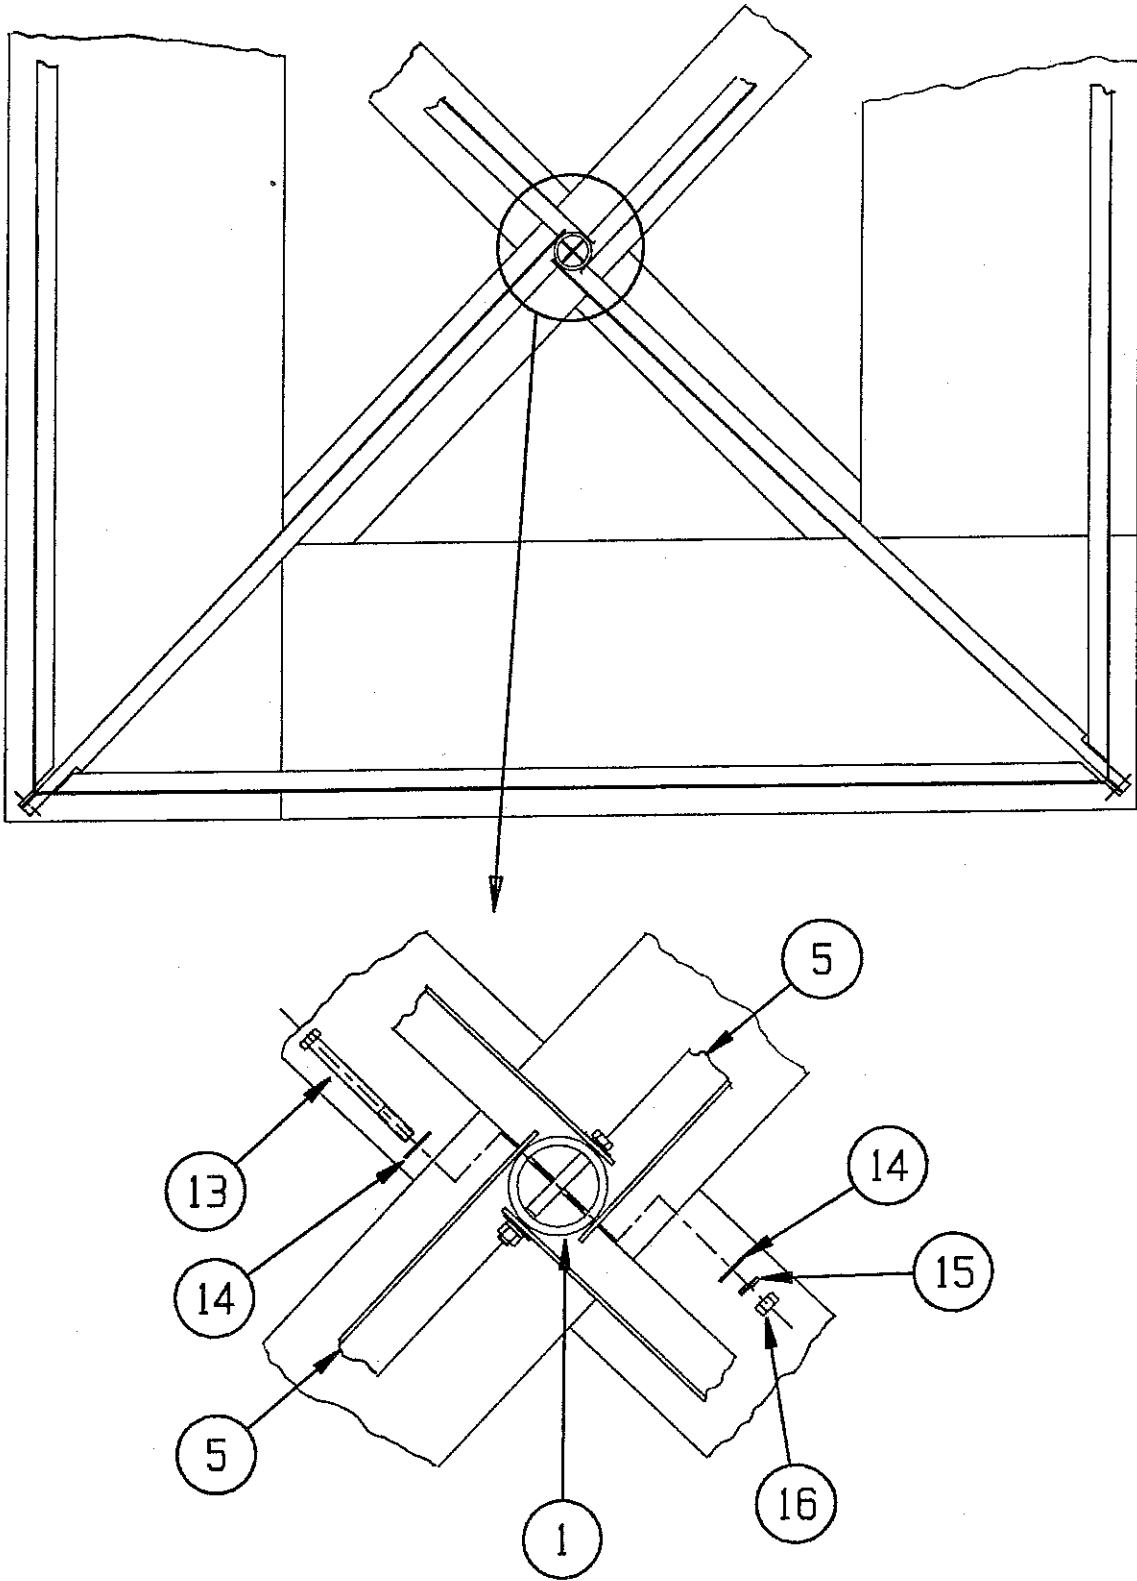

Figure 4
- STEP 5: Place the mast pipe (item 1) at the center of the diagonal braces as shown in Figure 4 and secure with (2) 1/2" bolts, (4) flatwasher, (2) lockwasher, and (2) hex nuts (items 13, 14, 15, & 16). Snug only. **(Note: Insure small rubber pads are centered under mast)**